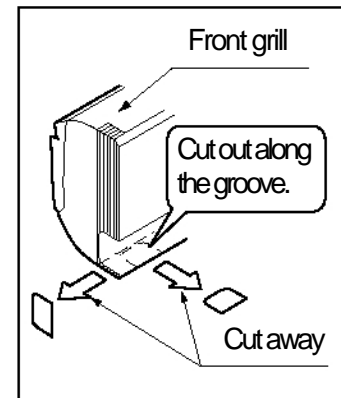

Fig. 4
- (a) Check the location for the hole using the included paper pattern for installation (3).
- (b) Temporarily attach the installation panel (1) at the temporary-securing position on the paper pattern for installation (3) and use a level to make sure the drain hose is either level or tilted slightly downward.
- (c) Secure the installation panel (1) to the wall using either screws or bolts.
- If using the attachment screws for the installation panel (2), attach using at least 4 screws on either side (for a total of 8 screws (22-36 type), 9 screws (45-71 type)) of the recommended installation cleat position on the included paper pattern for installation (3).
(3) If using the left, bottom-left, right, or bottom-right positions for the piping, cut out the through-hole for the piping in the front grill. (Refer to Fig. 4)